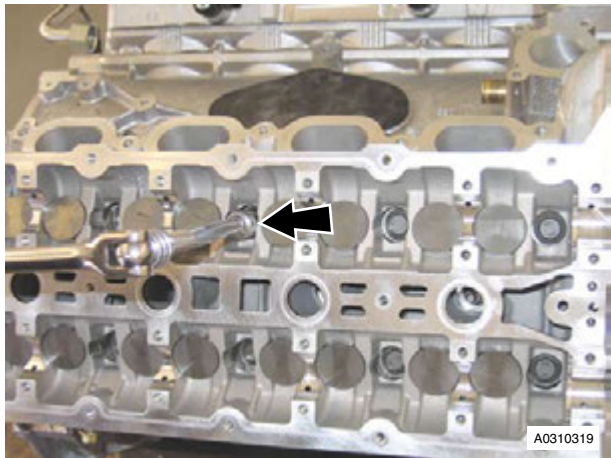

Figure 3
13. Remove bolts (x10), evenly and in stages securing RH cylinder head to cylinder block (see Figure 3).